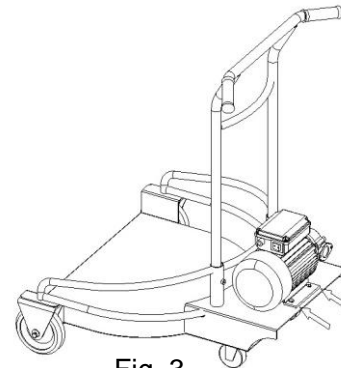

Fig. 3
3. Install the pump on the plate, tightly screwed, Screw the suction hose & delivery hose on the pump, Connect the nozzle with the pump. (See Fig. 3)